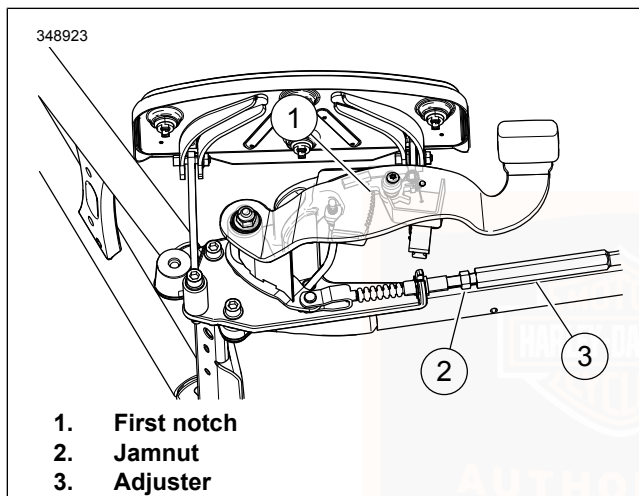

Figure 79. Parking Brake Adjustment
3. See Figure 79. Pull the boot back. Loosen jamnut.